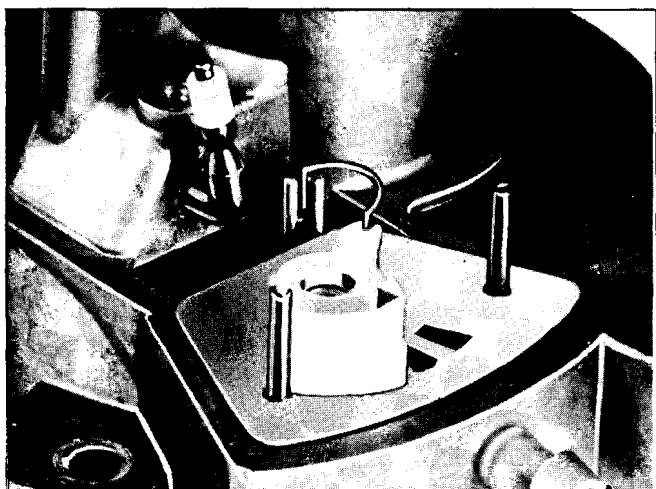

Fig. 4-45 Positioning Distributor Valve
4. Position distributor valve so that short foot of tension spring fits under valve and vertical leg is in slot (Fig. 4-45).